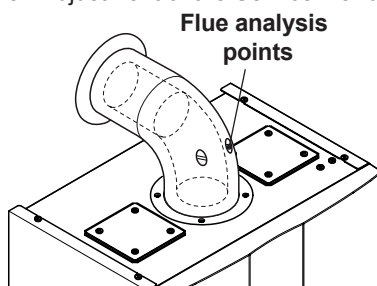

Fig. 10.13
It is recommended that a combustion analysis check is made. Remove the plug as indicated in Fig. 10.13 and carry out com-
- Check the combustion of the boiler using the outlets located on the flue tubes (Fig. 10.13) and compare the data measured with that following.